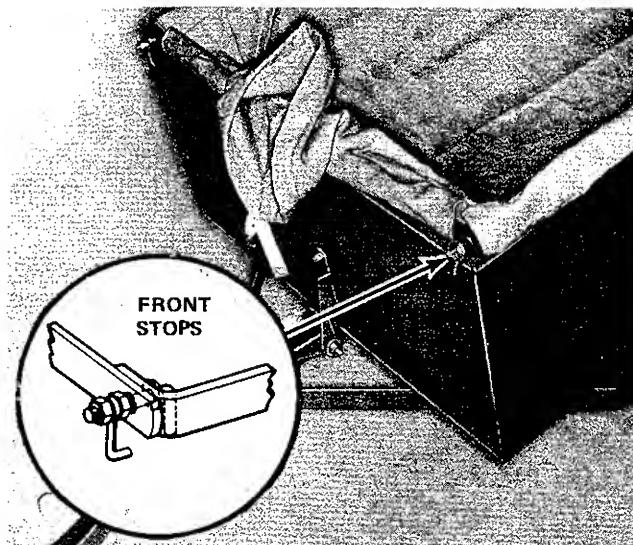

FIGURE 12
1. Install the front stops on the cover front frame (the end with the hose sleeve.) The special studs are inserted from the inside. Hardware to be installed as shown in the insert of Figure 12.